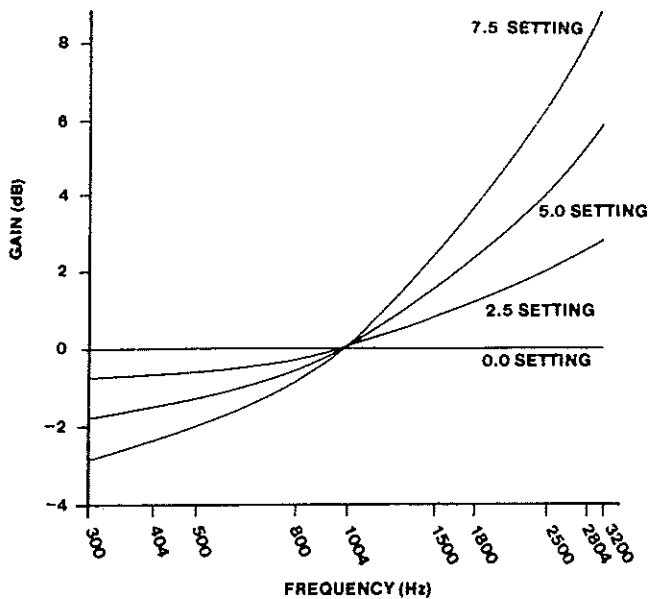

figure 5. Typical slope equalization response curves
2.08 Two modes of amplitude equalization are available on the 6124/A for post-equalization of the facility-side (4wire) receive pair. The first is prescription active slope equalization for nonloaded cable. When this mode is selected, from 0 to 7.5dB of gain at 2804Hz (re 1004Hz) can be introduced into the receive path in switch-selectable 0.5dB increments. Typical frequency response of the slope equalizer is shown in graphic form in figure 5 and in tabular form in table 1.
2.10 The response curves of both the slope equalizer and the bump equalizer "pivot" at 1004Hz, as shown in figures 5 and 6. Thus, neither equalizer has any effect on 1004Hz levels. As a result, equalization can be introduced into the receive channel of the 6124/A not only before but also **after** receive levels are set, with no interference between level and equalization adjustments.
consisting of nonloaded cable. The transmit equalizer is essentially identical to the receive-channel slope equalizer, providing from 0 to 7.5dB of gain at 2804Hz (re 1004Hz) in switch-selectable 0.5dB increments. Typical achievable flatness and typical frequency response of the transmit equalizer are the same as those of the receive-channel slope equalizer (see paragraph 2.08, figure 5, and table 1). Like the receive equalizers, the transmit equalizer does not affect 1004Hz levels. Thus, transmit equalization can be introduced not only before but also after transmit levels are set.